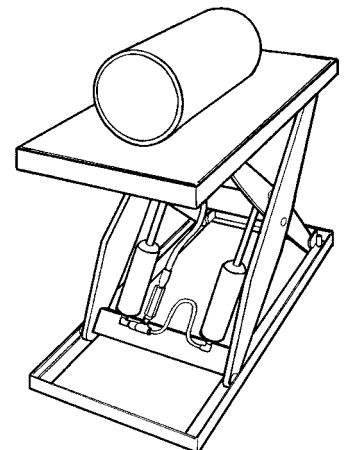

Figure 5 – Secure the Load
- If you are lifting pipes or other objects which may be able to roll or move, fasten them down, or chock them as shown in Figure 5.